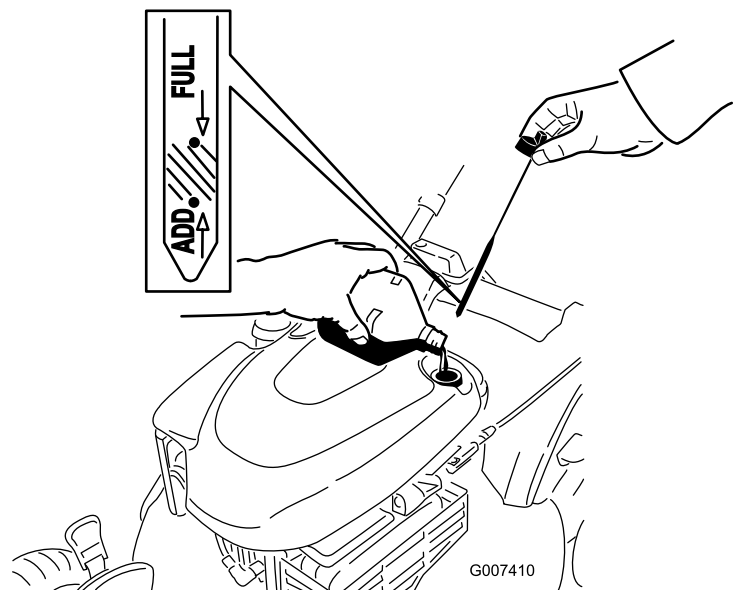

Figure 41
12. Remove the dipstick and read the oil level; refer to Figure 41.